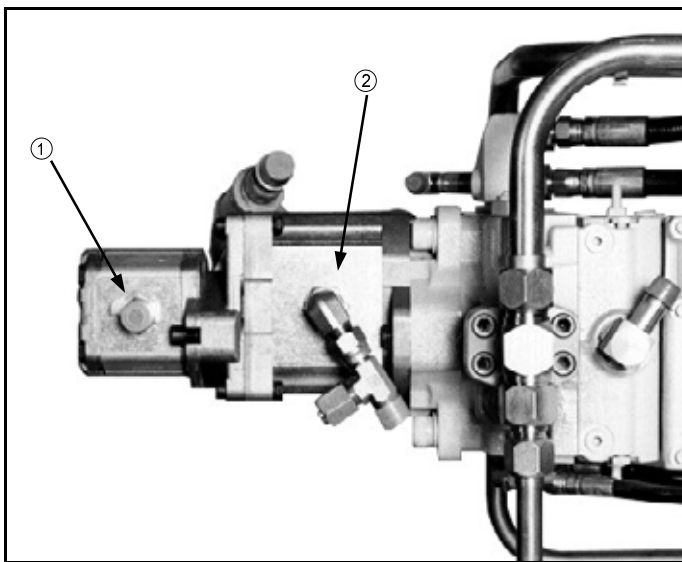

FIG 5.11
The front, larger gear pump (fig. 5.11, item 2) supplies only the hydraulic tread adjust cylinders and the solution pump. The rear, smaller gear pump (fig. 5.11, item 1) supplies power steering, boom controls, and mechanical agitation. Keeping these systems separate allows consistently even solution application if the operator activates any of the systems on the other pump.